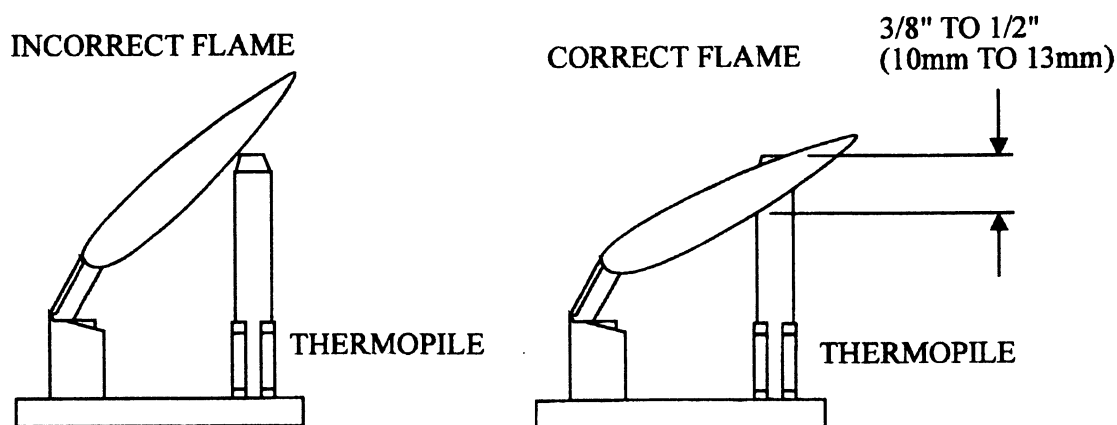

FIGURE 14
For proper operation, the pilot and main burner flames must be steady and not lifting off or floating. The top $3/8"$ - $1/2"$ (10-13 mm) of the thermopile should be engulfed by the pilot flame. The pilot flame adjustment should be performed by a qualified service person only. To adjust the pilot flame, turn the pilot adjustment screw counterclockwise ← to increase, and clockwise → to decrease the flame. Ensure that the pilot flame completely engulfs the thermopile, as shown in Figure 14.
1. Weak or improperly located pilot flame	1. Adjust and clean pilot. The flame must impinge on or engulf the thermopile, as shown in Figure 14.